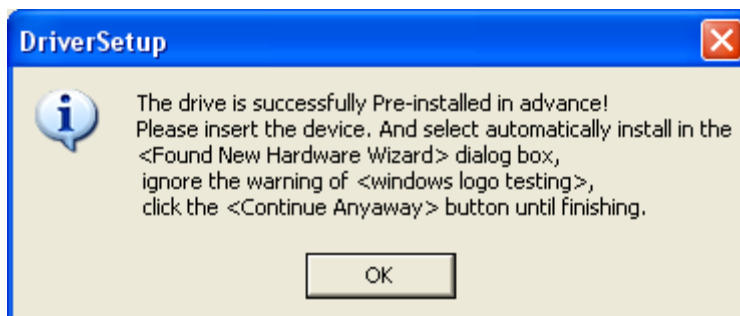

Figure 1-9
Step 3 : When automatic installation is complete, as indicated by the pop-up box in Figure 1-9, click **OK** in Figure 1-9. Your USB driver is now successfully installed on your computer and ready for use.